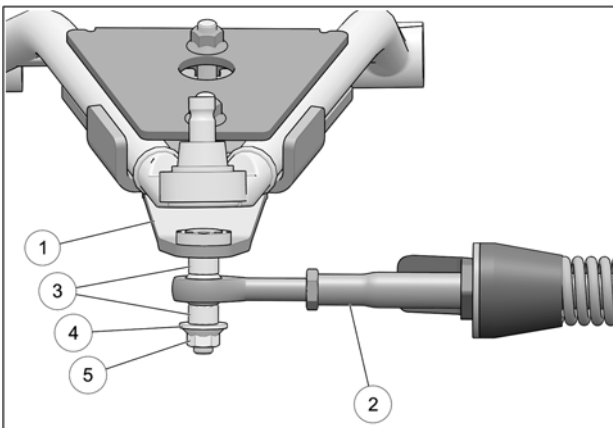

Fig. 14
- Attach the stabilizing rod (2) to the anchor bracket (1), using the two spacers (3), washer (4), and nut (5). Torque to 70 N•m [52 lb•ft]. Refer to Fig. 14